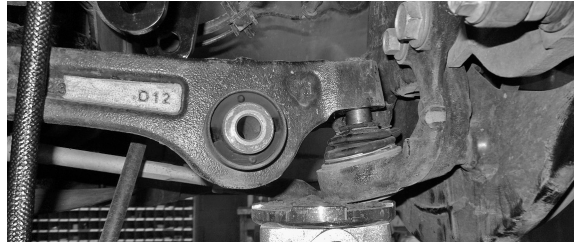

Fig. 15
4. Reconnect the ball joint (Figs. 15 & 16). Install the supplied clevis bolt with the supplied nylon lock nut (Fig. 17).